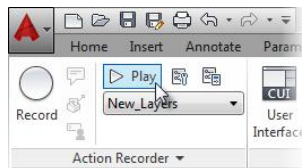

FIGURE 6.54: Playing the `New_Layers` macro in the Action Recorder panel
14. Make sure the `New_Layers` macro name appears in the Available Action Macro field, and click the Play button, as shown in Figure 6.54.